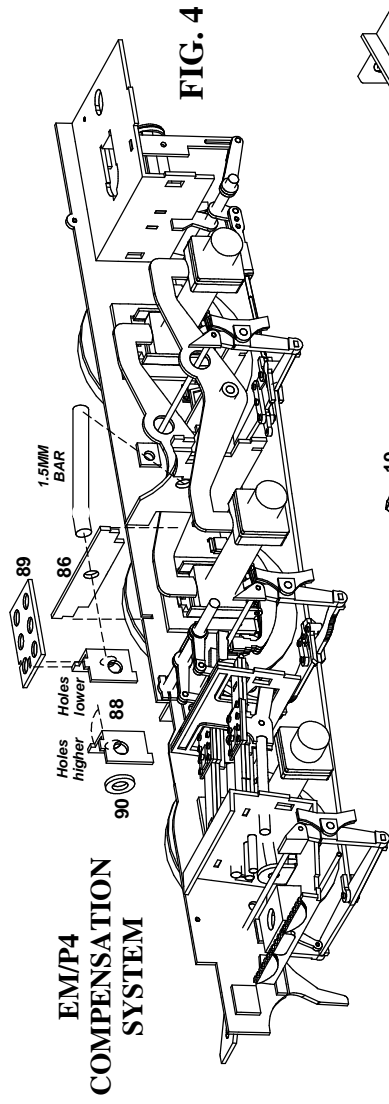

FIG. 4
To finish off the chassis prior to painting, add the Gearbox Restraint (86) to its locations in the frames. It should be trimmed according to gauge (see Figure 13), with the central hole opened out to suit a length of 1.5mm wire, then it can be slotted into the chassis locations, as shown in Figure 4. For the gearbox pivot, bend a length of 1.5mm diameter wire to shape, and fit it so it bridges between the location holes. Solder the wire in place and trim the rear end flush, with about 1.5mm protruding beyond the front face of the Restraint.